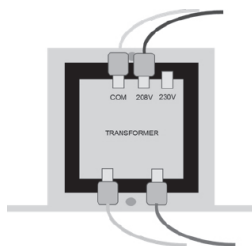

Figure 2: Transformer Wiring for 208V
3. Remove the connection cable from the right-hand connector (labelled 230 V) and connect the cable to the centre connector (labelled 208 V), as shown in Figure 2 below.